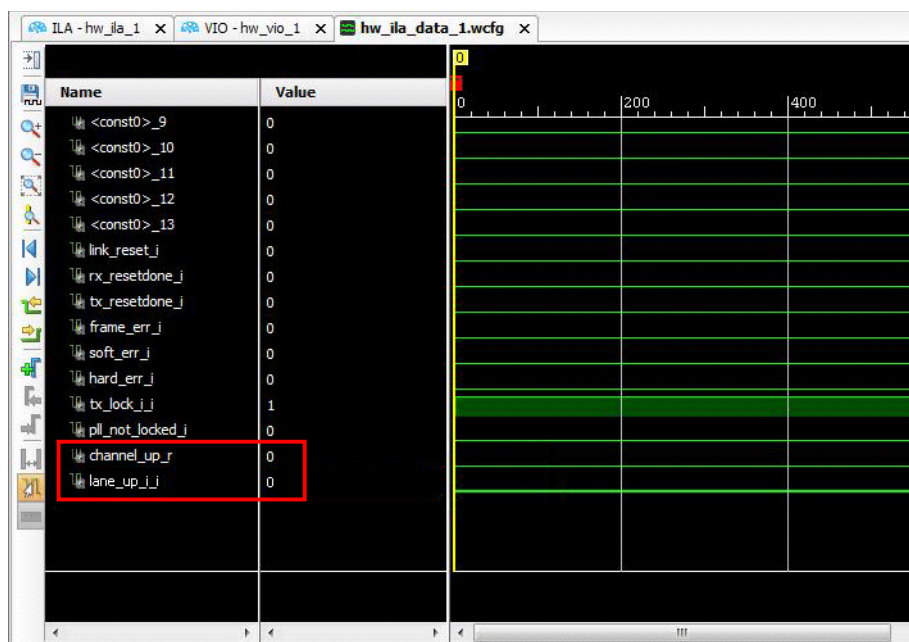

Figure 28: Single Lane HW-ILA Waveform with Reset
3. Click the waveform display tab and observe the results of the reset signal shown in Figure 28.